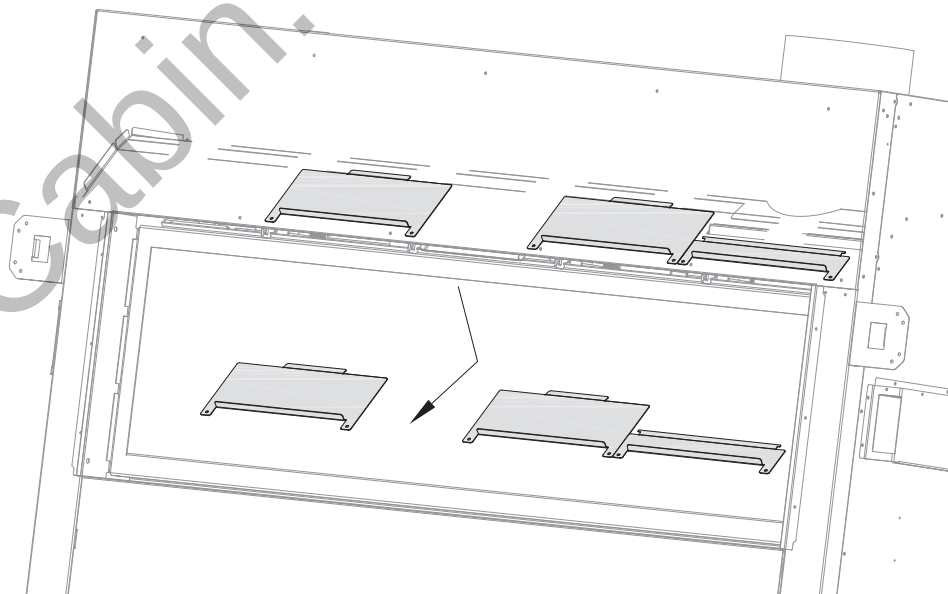
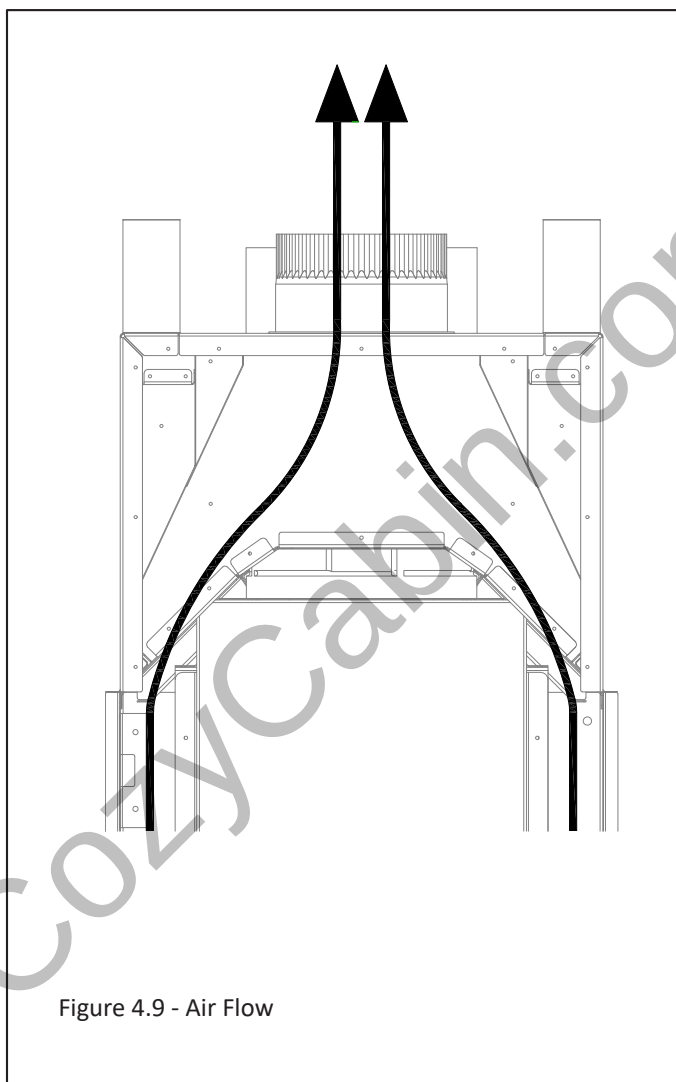

Figure 4.8 - Convection Baffles Removal
Figure 4.9 - Air Flow
3. Locate the convection baffles as shown in Figure 4.8. There are (2) screws that secure each convection baffles behind the upper edge of both sides of the fireplace. Remove the screws and convection baffles from the fireplace. Discard the convection baffles. See Figure 4.9 for information about airflow.